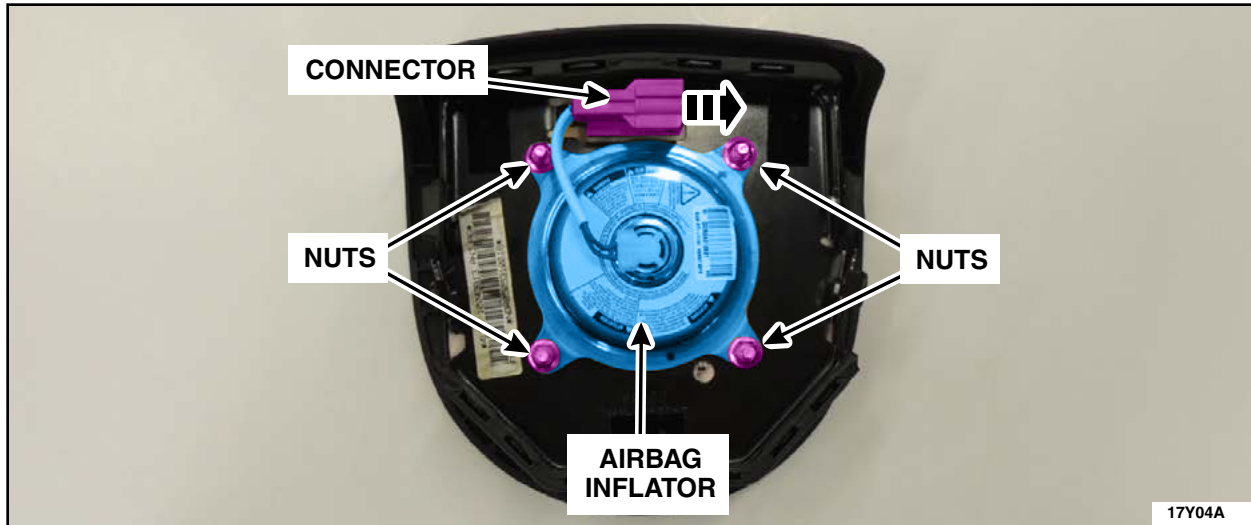

FIGURE 1
3. Release the retaining tab and slide the driver airbag inflator connector off of the tang. See Figure 1.
4. Remove and discard the four airbag inflator retaining nuts from the driver side airbag. See Figure 1.
Remove the airbag inflator and set aside for return shipping. See Figure 1.
7. **NOTE:** The *new* airbag inflator must be installed in the same orientation as the original part to ensure the inflator module and airbag harness electrical connector T-shape indexes are aligned properly. See Figures 1 and 3.